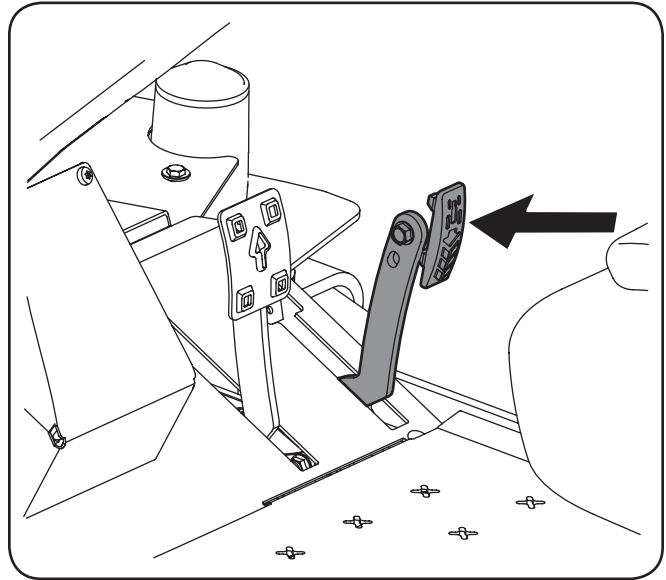

Figure 5-2
1. Slowly push the reverse drive pedal forward. The tractor will start to move in the reverse direction. See Fig. 5-2.